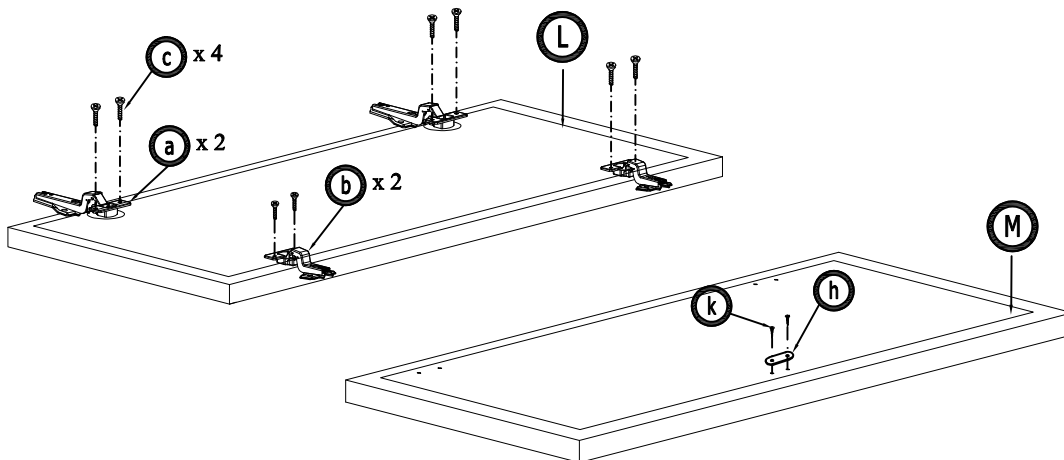

Figure 11
11. Assemble hinges into the doors by screwdriver and 8 screw 7/15" (Figure 11)